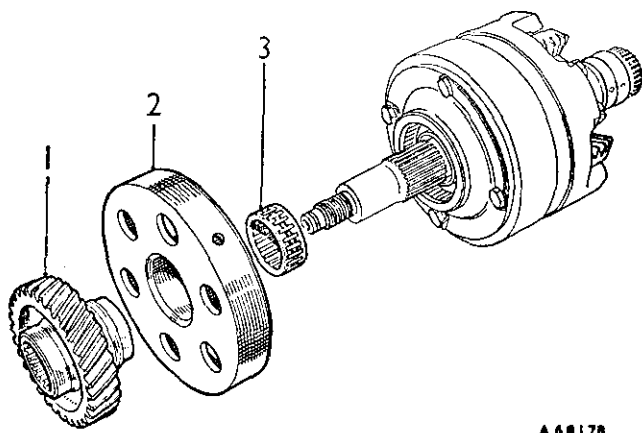
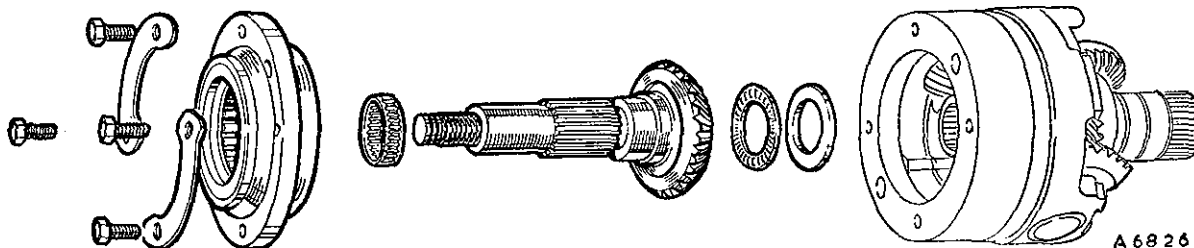

Fig. Fa.39
Fig. Fa.40
- (5) Remove the input gear, and pull off the first gear free-wheel reaction member and needle-roller bearing (Fig. Fa.39).
- (6) Knock back the lock washers and remove the first gear free-wheel housing set screws.
- (7) Pull out the first gear free-wheel assembly, input gear, Torrington thrust race, and washer (Fig. Fa.40).
- (27) Assemble the bevel input shaft with its Torrington needle thrust bearing and selective steel washer (see Fig. Fa.40).
(28) Refit the one-way clutch to the gear train housing (Fig. Fa.40), tighten the securing bolts, and tap up the locking plate tabs.
(29) Refit the free-wheel support.